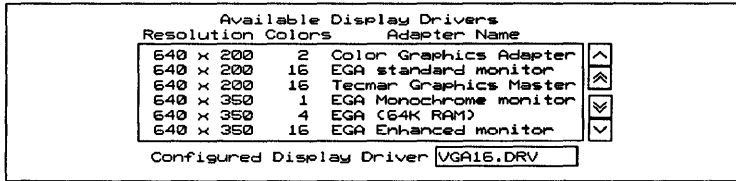

Figure 1-2. Available Display Drivers list box.
A list box (figure 1-2) lists the different display drivers that are available in the directory path specified in the Driver Prefix entry box.
*Example* If you select the EGA Enhanced monitor from the drivers displayed in figure 1-2, the following displays: